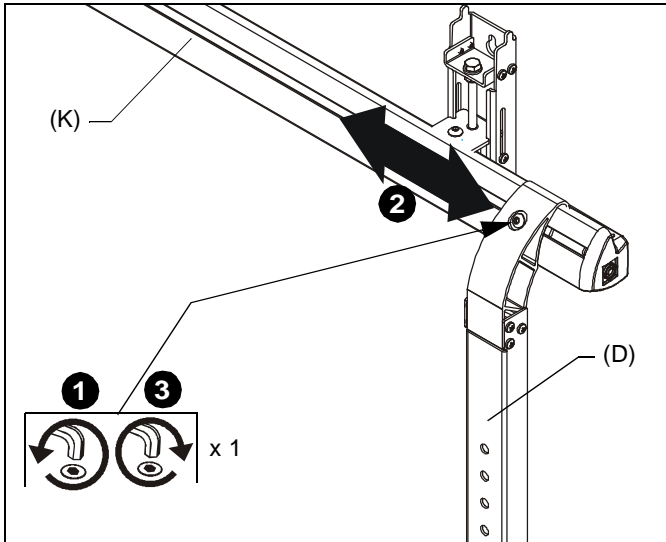

Figure 10
1. Loosen, but do NOT remove, one button head cap screw at top of each upright assembly (D). (See Figure 10)
2. Slide upright assembly on wall assembly (K), as necessary. (See Figure 10)
3. Tighten button head cap screw at top of each upright to fasten upright assembly into place. (See Figure 10)